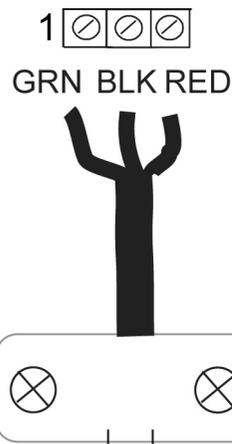

Figure 3: EL4761 Flood Sensor
- Attach the flood sensor in horizontal position near the floor with the 2 pins facing downwards (Figure 3) using the enclosed screws or double-sided sticker